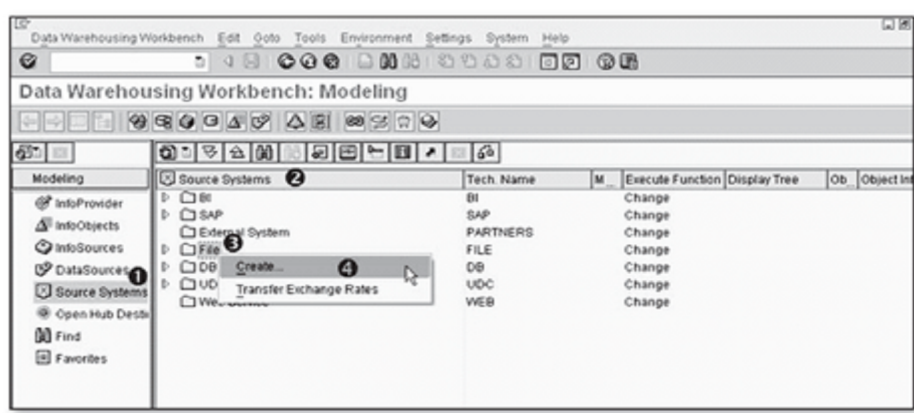

Figure 7.3 Creating Flat File Source System in DWW
In this section, we explain how to create a flat file source system, which is required to extract data from CSV and ASCII files. Source systems are created in the Data Warehousing Workbench (DWW), which is started using Transaction RSA1. Select the source system under Modeling, as shown in ❶ of Figure 7.3. A list of the different source system types supported by SAP NetWeaver BW is shown (❷).